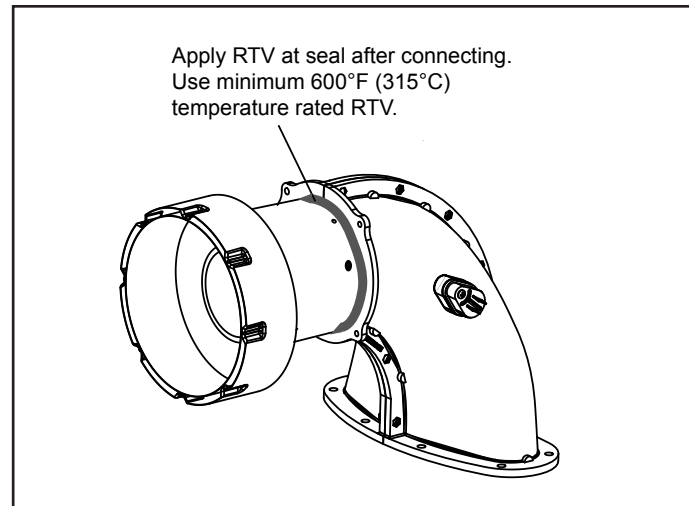

Figure 8. Seal Connection with RTV
6. Apply high temperature silicone RTV at the connection to seal, as shown in Figure 8.